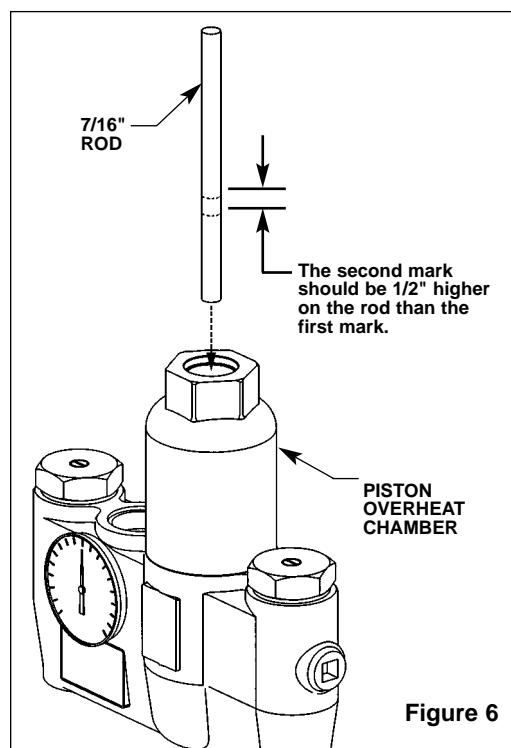

Figure 6
2. Insert a 7/16" dia. rod into the valve and into the piston overheat chamber. Mark the length of the rod inside the valve (see Figure 6).
3. Push the rod until the piston stops and mark the new length (the new length should be approximately 1/2" longer than the original length) (see Figure 6). If the length is not as it should be, the piston is not moving freely and needs to be cleaned along with the piston liner. Clean the piston and liner following the method outlined below: